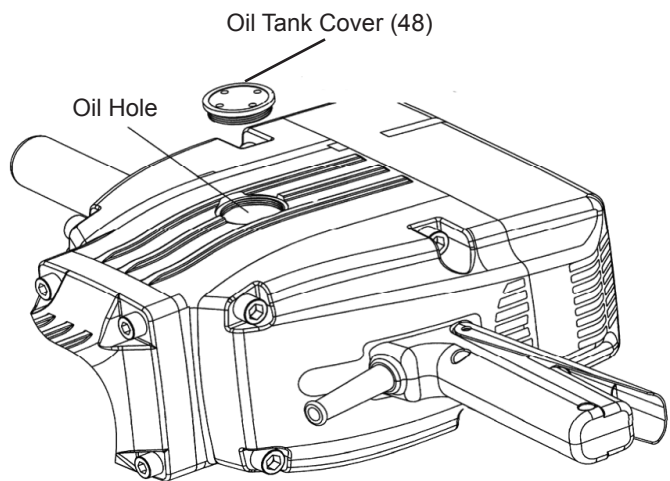

Figure 4
4. To add lubricating grease, the Tank Cover Wrench (105) to open the Tank Cover (48). See Figure 4, below.